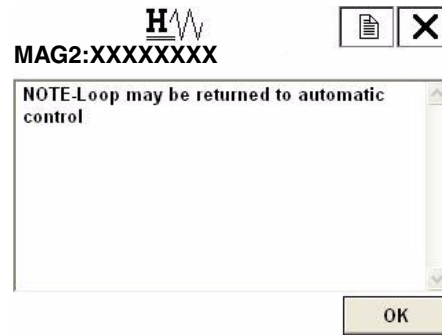

Figure 143.
- A note of caution appears as shown in Figure 143. To proceed, press F4 OK).